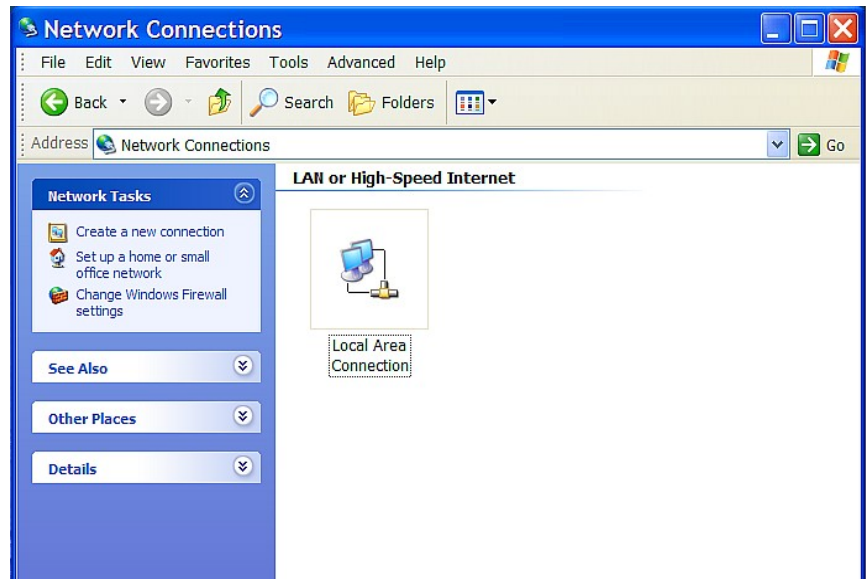

Figure 2.3c- Network Connection
2. Double click on the icon labeled Network Connections. The Network Connections window will open (Figure 2.3c).